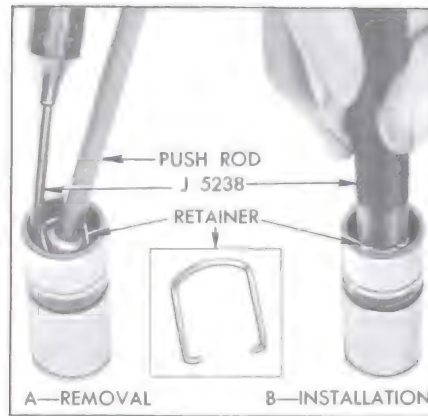

Figure 2-28—Removing and Installing Plunger Retainer
1. Disassemble each valve lifter by using a push rod to hold down the push rod seat while removing the plunger retainer from the lifter body, using Retainer Remover J-5238. See Figure 2-28, View A. Remove push rod seat and plunger from lifter body.
3. Rinse push rod seat and plunger retainer, place these parts in end of body and depress with handle of Remover J-5238 until retainer engages groove in body. See Figure 2-28, View B.